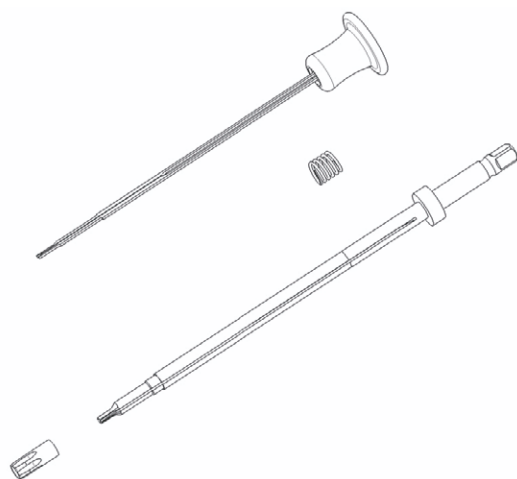

Fig. 10 Exploded view of S⁴ Cervical self holding polyaxial screwdriver
- Slide the knob with retaining tongues onto the screwdriver shaft in such a way that the retaining tongues engage the grooves of the screwdriver shaft, see Fig. 10.
6.4 Rod persuader (26)